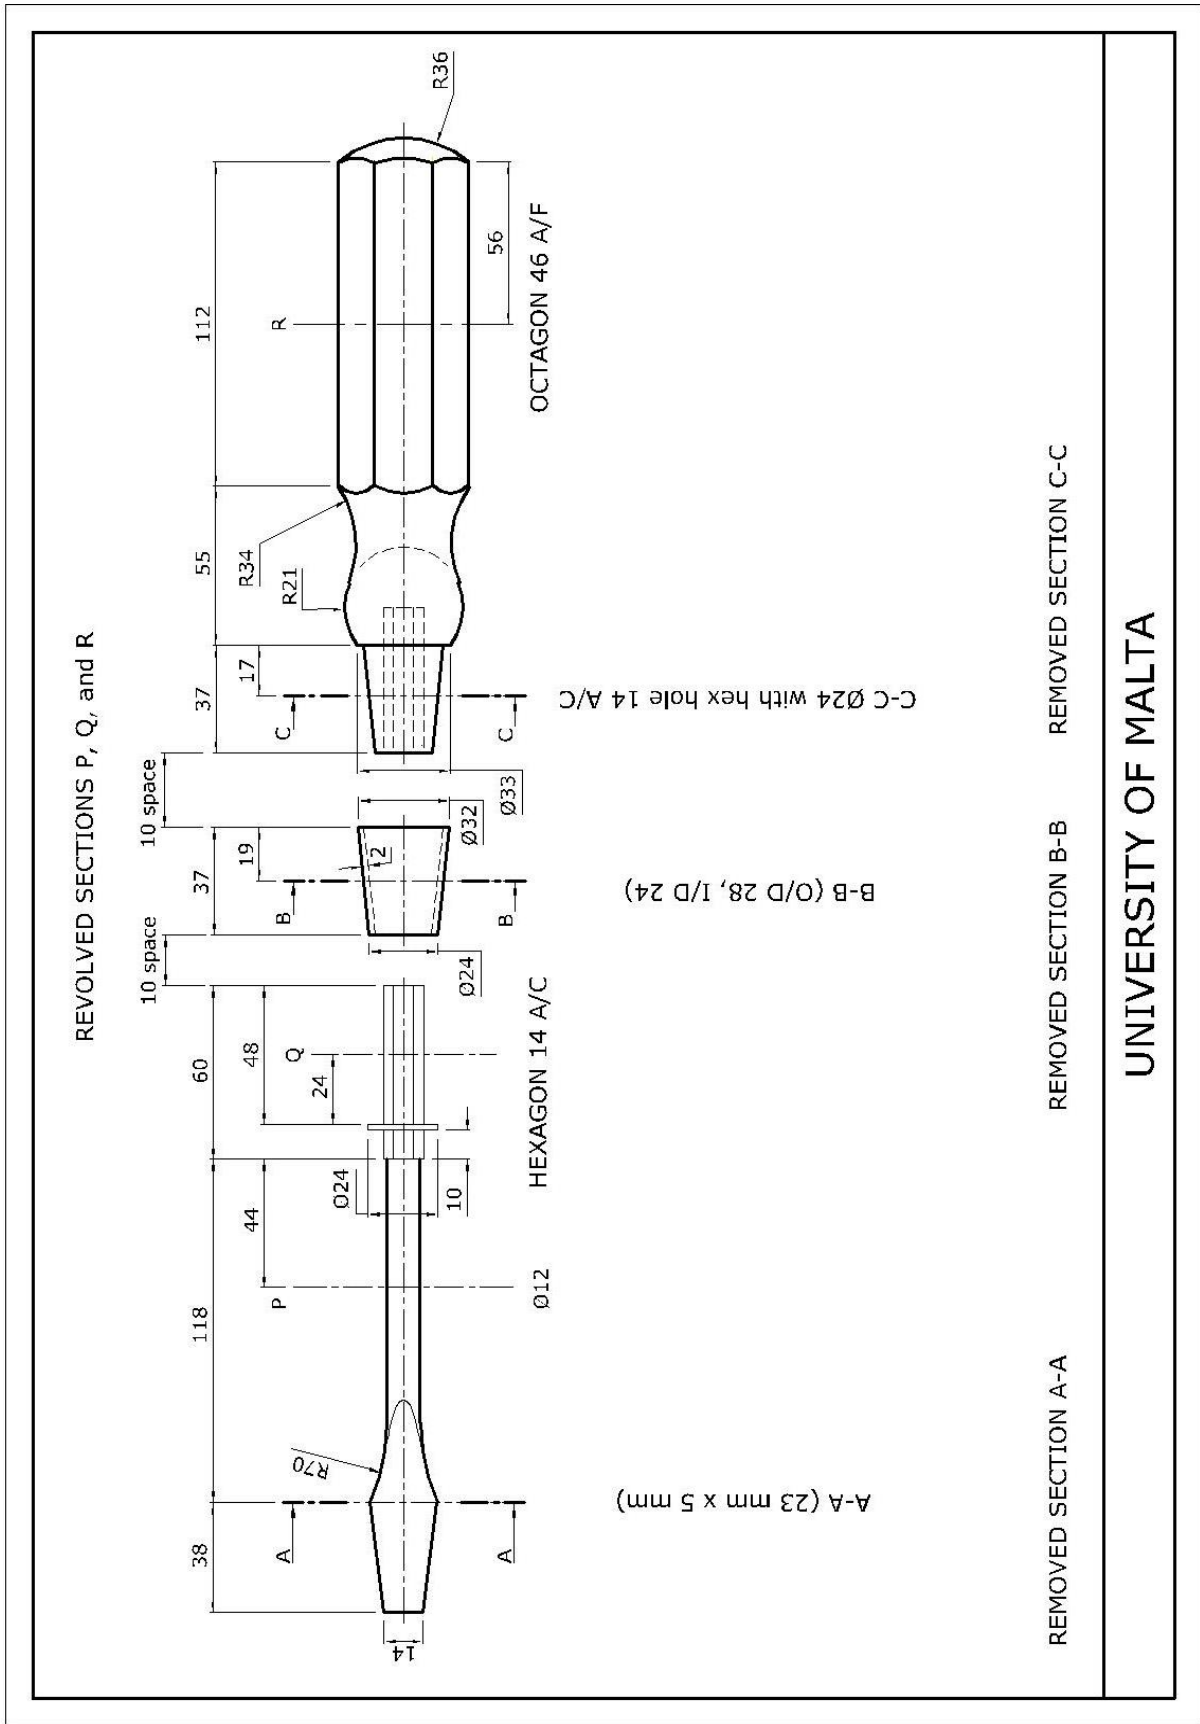

Figure 3c
A detailed plan of the exploded screwdriver is shown in Figure 3c. You are requested to:
- a) copy the drawing given in Figure 3c; (8)
- b) draw the removed sections where indicated by cutting planes A-A, B-B and C-C. (6)
- c) draw revolved sections where indicated by vertical centerlines P, Q and R to indicate the  $\varnothing 12$ , the hexagon 14 A/C and the octagon 46 A/F sections, respectively. (6)